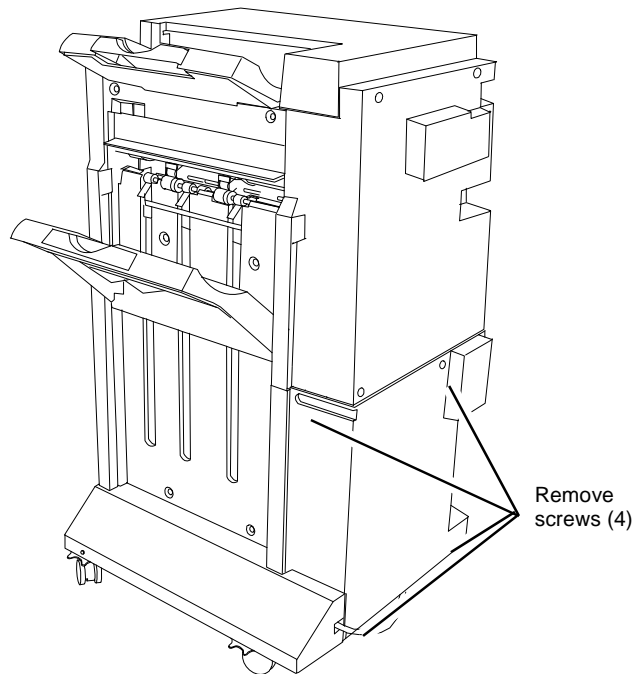

Figure 1 Removing the Rear Lower Cover
3. Remove the Rear Lower Cover (Figure 1).